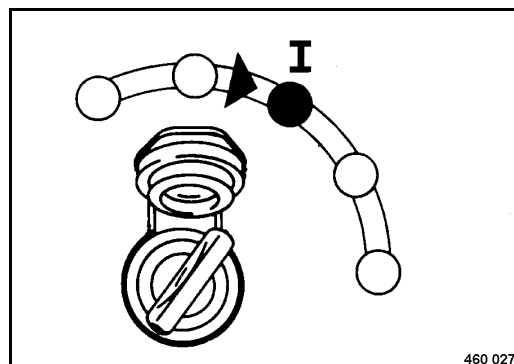

Fig. 57
- Turn the ignition key (Fig. 57) to position "I".